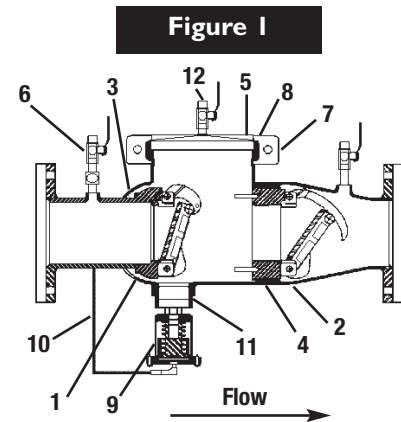

Figure 2
- Before reinstallation of check assembly, thoroughly clean O-ring groove and lubricate with F.D.A. approved lubricant. Insert and thread #2 Cam-Check first and then #1 Cam-Check. #2 Cam-Check should be tightened by inserting a long screwdriver between lugs to tighten firmly (see figure 2). Do not over tighten. Tighten #1 Cam-Check firmly by hand only. Replace cover plate, clean groove coupler gasket and groove. Replace groove coupler. Close ball valves. Repressurize and bleed air from all test cocks.
2. If the valve is to be removed from the backflow preventer for service, place a screw driver blade or flat bar across the edges of (2) of the hex head screws in the bottom flange cover and turn counter-clockwise to loosen the relief valve assembly. (see Figure 2)
3. Remove the (4) bottom bolts from the bottom of the relief valve assembly with a $\frac{5}{16}$ " socket or open-end wrench. Remove the bottom flange cover.